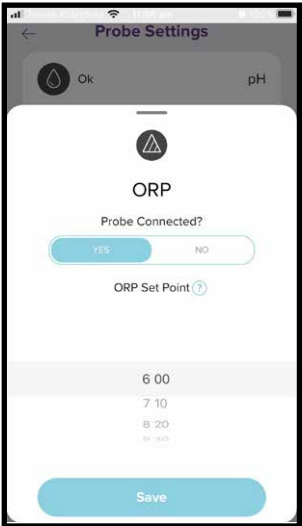

Figure 8.38
- From the ORP adjustment menu, scroll the dial onscreen to edit the ORP set point (refer figure 8.38)